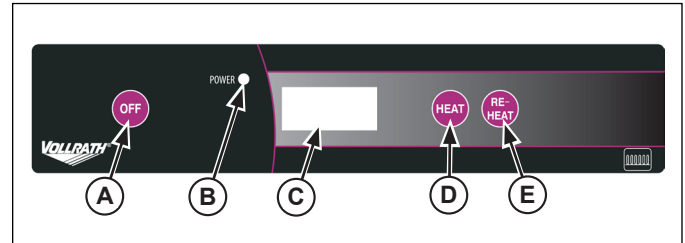

Figure 1. Control Panel
2. Press the HEAT CYCLE button (D) or the RE-HEAT CYCLE button (E). A heating cycle will begin and the preset timer will begin to countdown on the display panel (C). See Figure 1.
3. Press the OFF button (A) to turn the unit "OFF" before the heating cycle has ended.